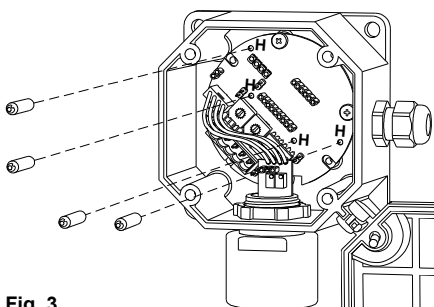

Fig. 3.
5. Insert on the transmitter the four featured turrets, (as shown in Fig. 3).